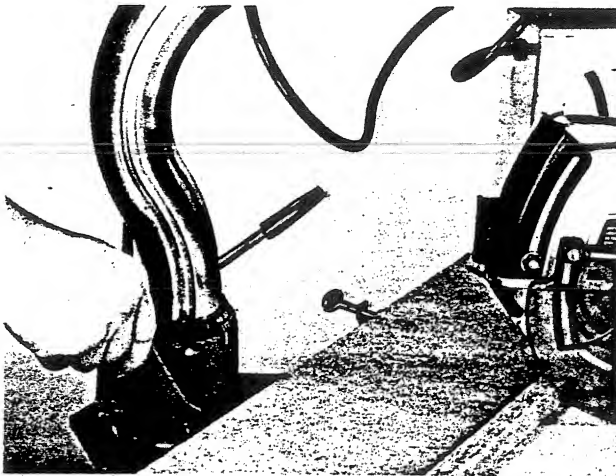

Fig. A6
2. Loosen the nut on the adjustable miter locator and pivot the arm so the 45° mark lines up with the white mark on the base (Fig. A6).